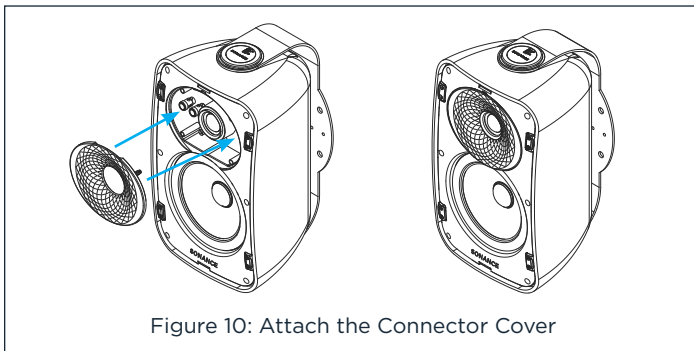

Figure 10: Attach the Connector Cover
8. Fit the removable waveguide wiring connector cover into the recess in the speaker's front panel. The cover should fit tightly, but can be removed and replaced if the speaker needs to be disconnected (see Figure 10).